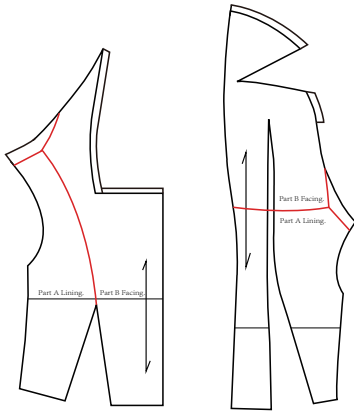

Fig.33
- Taking into account the thickness of the shoulder pads, I lowered the shoulders of the front and back pieces by 2cm at the position of 6cm from the edge. Draw the Separation Line Between Lining and Facing(see Fig.33).